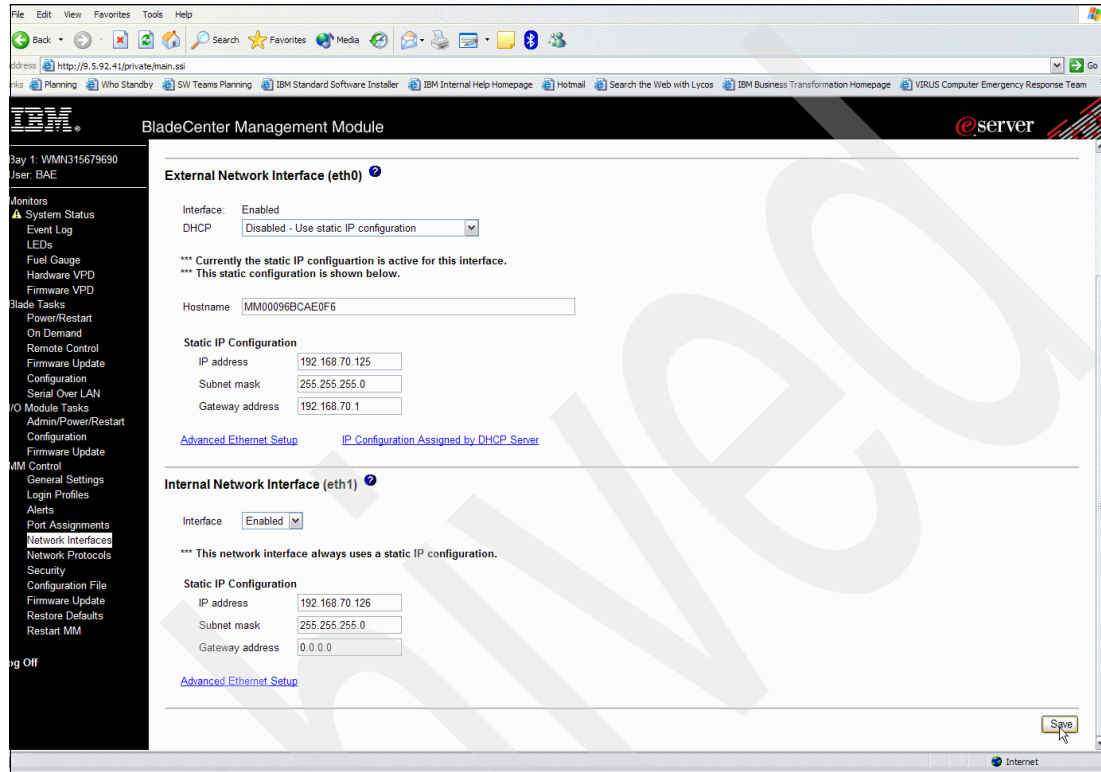

Figure 6-34 Network interface window MM
- b. The System Status window appears of the SP showing the status of the xSeries. Click **Network interfaces** under ASM Control, the network interface window appears (Figure 6-34 on page 182).
- b. The System Status window of the SP appears showing the status of the xSeries. Click **Network interfaces** under MM Control, the Management Module Network Interfaces window appears (Figure 6-34). Click **External Network Interface (eth0)**.